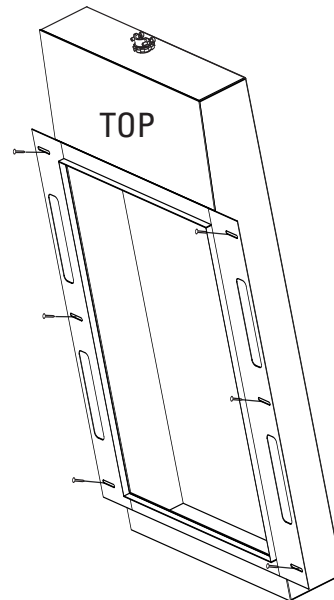

Figure 5: Fasten Back Box to Wall Studs
3. Firmly secure the back box into place using nails, as shown in Figure 5.